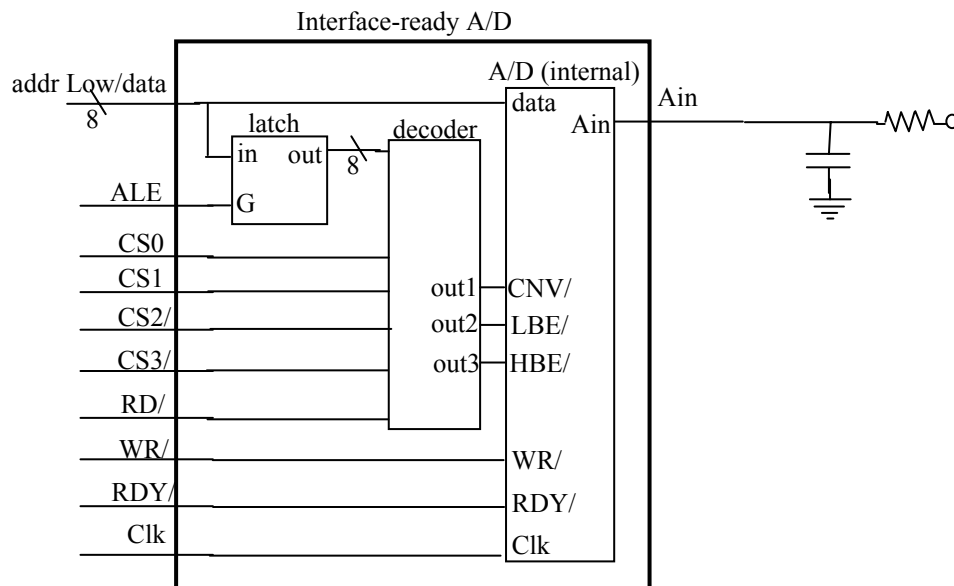

Fig. 2. Block diagram of specified project.
Your chip should be implemented at two “levels” as shown in Fig. 2. The outer level is ready to interface to the 8051. The inner level contains a address latch, an address decoder, and your A/D design. Specifications include:
- **Interface.** The general interface for your design is shown in Fig. 2. Your A/D converter will be designed with an internal address latch and address decoder, allowing easy interface to the 8051. The decoder will be designed such that the A/D converter is “selected” when CS0=CS1=1 and CS2/=CS3/=0 and one of the following (low-byte) addresses is accessed: